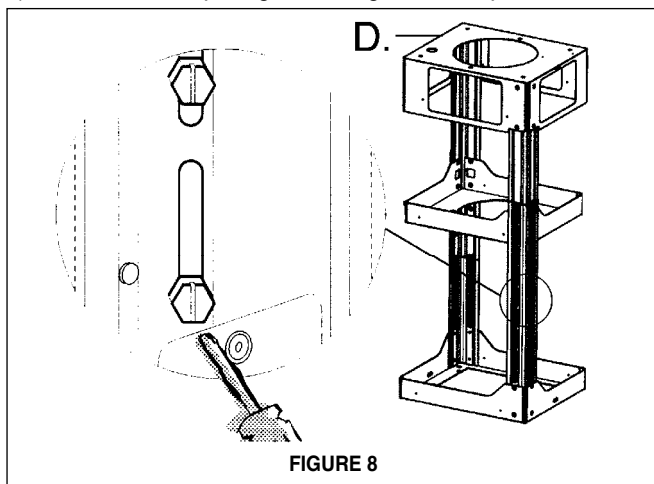

FIGURE 8
6. Determine the proper location for the Power Supply Cable as indicated on the template. Use a 1 1/4" Drill Bit to make this hole. Run the Power Supply Cable. Use caulking to seal around the hole. **DO NOT turn on the power until installation is complete!** A knockout is provided at the top of the CHIMNEY SUPPORT (D in FIGURE 8).
8. Attach the CHIMNEY SUPPORT (D in FIGURE 8) to the ceiling. Make sure that the support is firmly attached to the ceiling. Determine the desired length of the support structure and adjust the length of the support by removing the four screws (indicated in FIGURE 8) with a flat head screwdriver. Once the length of the support is determined, install and tighten the four screws.